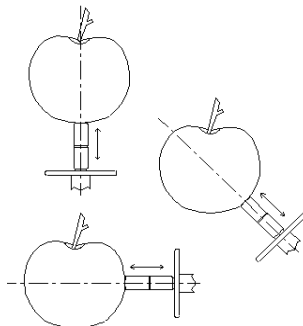

Fig. 2
- 2) Pressure head and fruits should be vertical surface. When make the measurement, the Sensing Head along the tip should be on a line with measuring fruits (ref. Fig. 2)